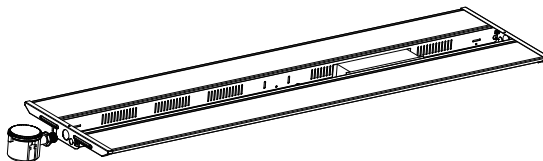

Figure 10
Step2.Knock out the side cover, mount the sensor on the side, do wiring accofing to instruction on sensor (Figure 10);